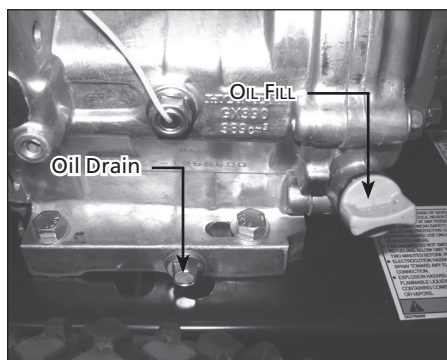

Figure 12 - Oil drain and fill locations
2. Locate and remove the engine oil drain plug (See Figure 12).